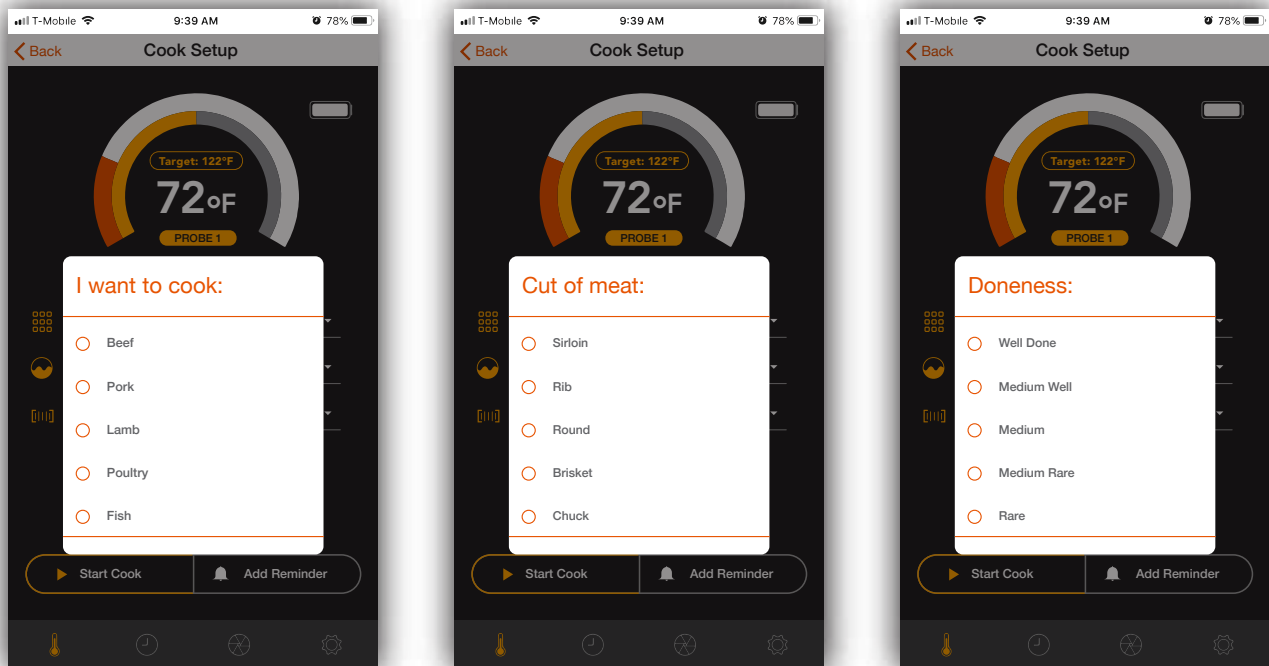

Figure 8. Displays of “Type of Meat”, “Cut of Meat” and “Doneness”
3. Choose the type of meat to cook by tapping "I want to cook" once and then selecting the meat type (see Figure 8).
4. Choose the cut of meat to cook by tapping "Cut of meat" once and then selecting the cut of meat (see Figure 8).
5. Choose the doneness by tapping "Doneness" once and then select the desirable doneness (see Figure 8).